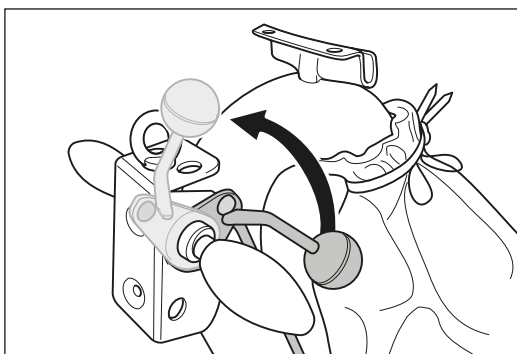

Fig. 36 Lift the sanding drum off the floor by turning the lowering lever at the handle upwards.
- **Always lift the sanding drum off the floor before switch on the machine (fig. 36)!**
- 1 Lift the sanding drum off the floor by turning the lowering lever at the handle upwards (fig. 36).